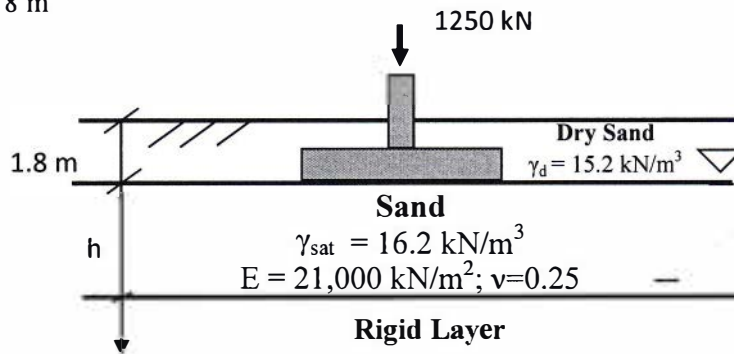

Fig. 1
- 2.(a) Calculate the immediate settlement of sand layer below the center of the rectangular column footing (dimension 2 m x 3 m) for the following cases (Fig.1) using elastic theory.